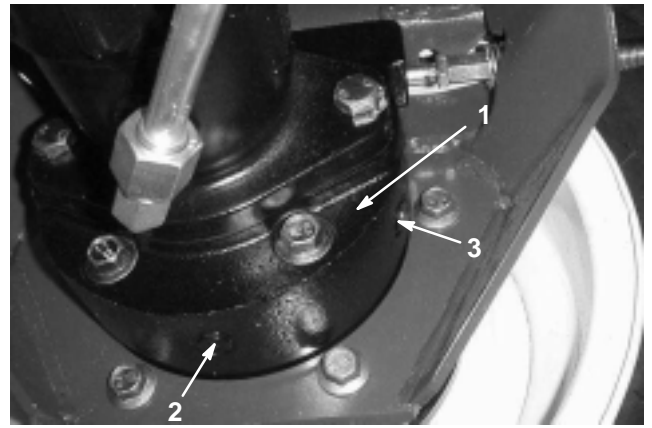

Figure 52
3. Place another drain pan under the brake housing on the other side of the wheel (Fig. 52).